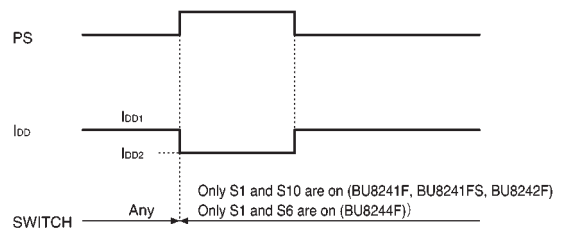

Fig. 3 Power save mode timing waveform
(3) The power save mode is set as long as the PS pin is kept HIGH. (See Table 2 for the power save setting logic.) In the power save mode, the following are fixed : IN1 → OUT1 (S1 = ON) and IN2 → OUT2 (S10 = ON). (The other 62 switches are off.) In addition, the line current is reduced. When the PS pin goes from HIGH to LOW, the IC state switches from the power save mode back to normal operation. At that point, the state of the switch remains in the power save mode (only S1 and S10 are on). (See Figure 3 for the timing waveform in the power save mode.)
(4) With the BU8242F, of the 64 data bits, the following should be input at LOW level : D₃, D₄, D₁₁, D₁₂, D₁₇ to D₃₂, D₃₅, D₃₆, D₄₃, D₄₄, D₅₁, D₅₂, D₅₉, and D₆₀.
(5) With the BU8244F, DIN is 16 bits.